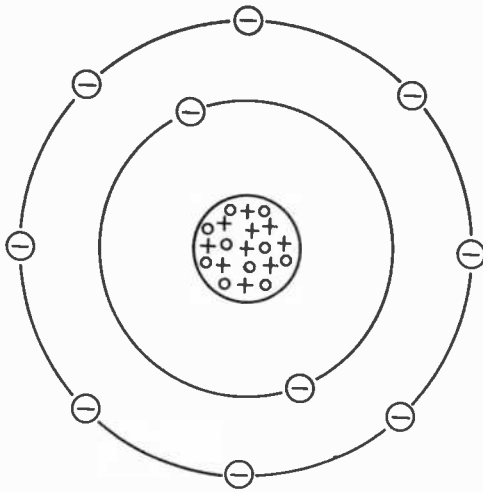

Fig. 1. Makeup of a stable neon atom.
A stable neon atom is shown schematically in Fig. 1. In its nucleus are 10 protons and 10 neutrons. Orbiting around the nucleus are 10 electrons, two of which are in the inner ring and eight in the outer ring. The protons carry a positive (+) charge, the electrons a negative (-) charge, and the neutrons are neutral, having no (0) electrical charge. Similarly, a uranium atom consists of a nucleus with protons and neutrons and a comparable amount of electrons (92) in seven rings. Uranium, however, is not a stable atom. It will decay until it eventually becomes lead.